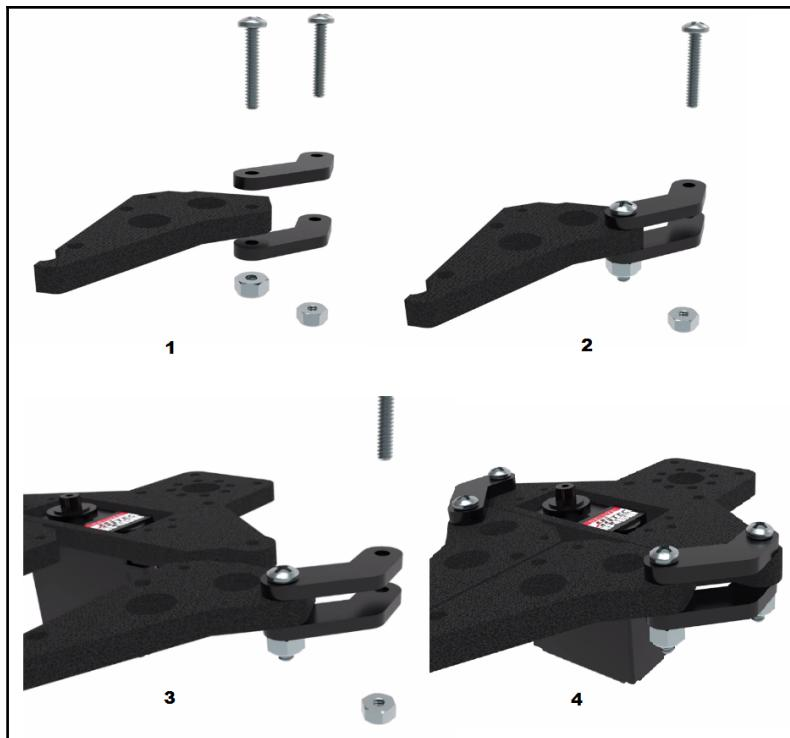

Figure 7.6: Assembling the left-side gripper. Image courtesy of ServoCity (<https://www.servocity.com/parallel-gripper-kit-a>)
7. Then, assemble the left-side gripper as shown in *Figure 7.6*: